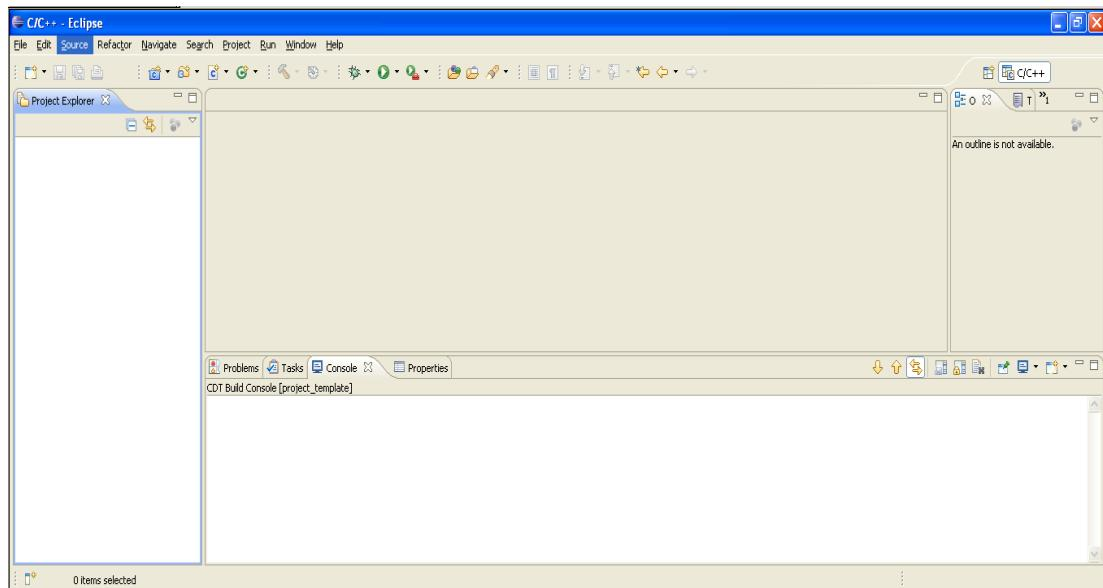

Figure 11.2 Eclipse IDE
- i) Fire up the Eclipse IDE. A window similar to that shown in Figure 11.2 will crop up.